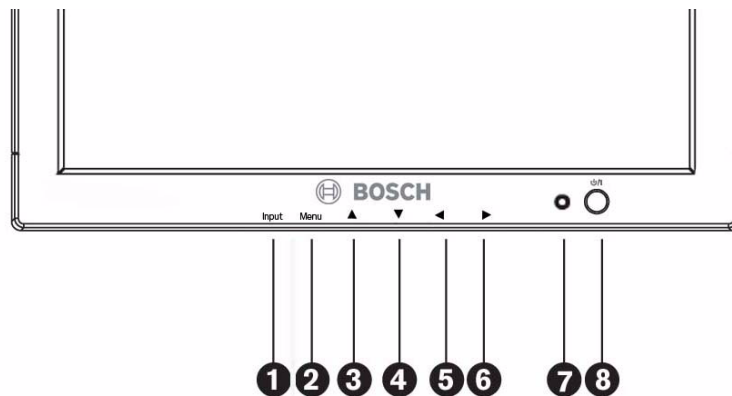

Figure 3.1 Front Panel
Monitor control functions are accessed via the front panel push buttons and the multi-language On-screen Display (OSD). See *Figure 3.1* for front panel descriptions.
3. Press the Power button to turn on the unit (see *Figure 3.1*).
4. Press the Menu button to activate the main menu selections (see *Figure 3.1*).